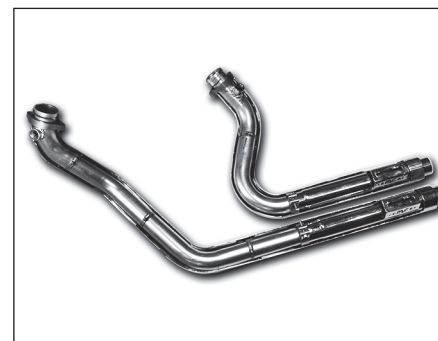

Fig 4
8. Insert the head pipes into the heat shields and attach the clamps (Figure 4). Do not tighten at this time to allow for adjustment.